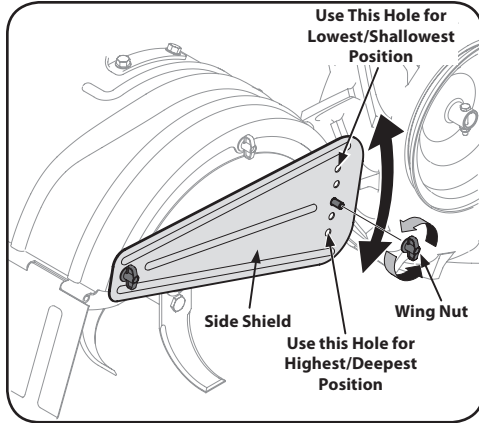

Figure 4-4
2. When breaking up sod and for shallow cultivation, use the setting which gives 1" of tilling depth (second hole from the top). Place the side shields in their lowest position. See Figure 4-4.
7. To adjust the side shields, remove the wing nuts. Move the side shield to the desired position and replace the wing nuts. Tighten securely. See Figure 4-4.